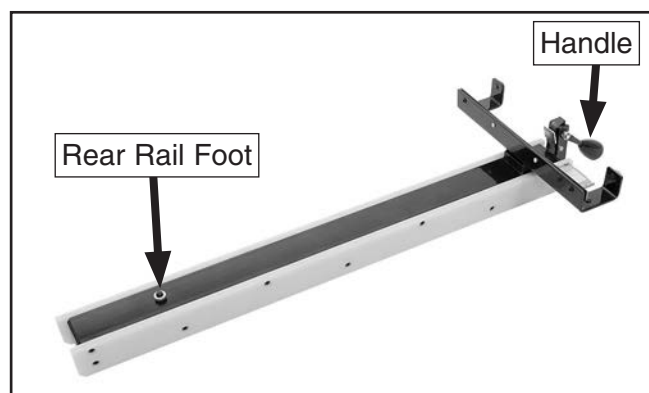

Figure 26. Fence assembled.
1. Attach the fence handle to the fence and thread the rear rail foot into the bottom of the fence (see **Figure 26**).